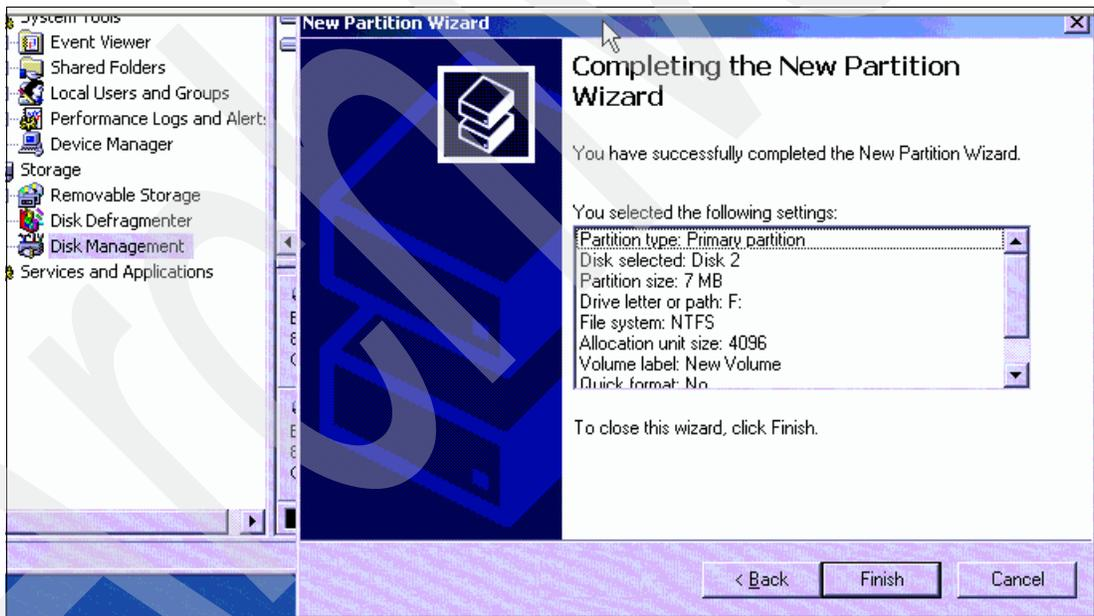

Figure 4-78 Completing the formatting of the disk
- xi. Click **Next**. In Figure 4-78, review the information, and click **Finish** if it is correct.